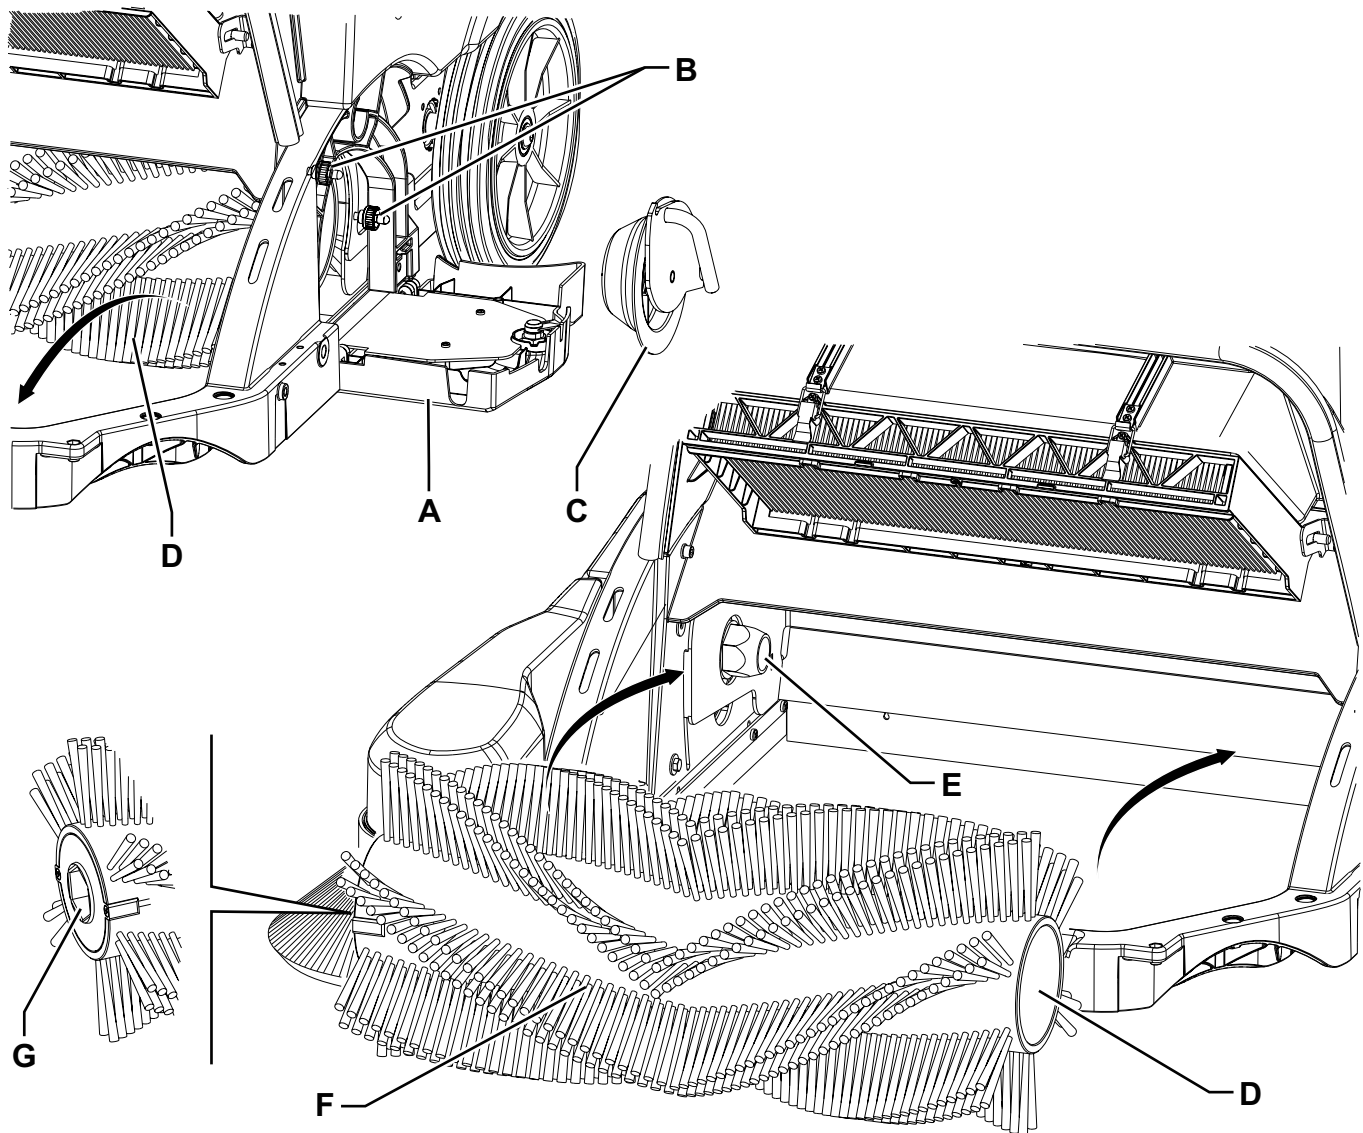

Figure 4
2. Turn the ignition key (2) to "0".
3. Turn the main broom height adjusting knob (28) fully clockwise.
4. Remove the hopper (14).
5. Turn the knob (23) and open the left door (A, Fig. 4).
6. Loosen the knobs (B) and remove the main broom cover (C) by slightly turning it counter-clockwise.
7. Remove the main broom (D) from the front side of the machine.
8. Check that the drive hub (E) is free from dirt or foreign materials (cords, rags, etc.) accidentally rolled up.
9. Place the new main broom with the bristles rows (F) bent as shown in the figure.
10. Install the new main broom on the front side of the machine, and ensure that the mesh (G) properly fits into the relevant drive hub (E).
11. Install the main broom cover (C) and tighten the knobs (B).
12. Close the left door (A).